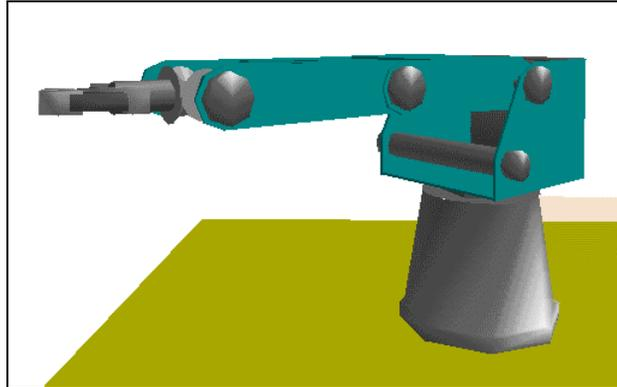

Figure 3-3: Position #2
- 6 Turn the base axis about 45° , as shown in Figure 3-3, and record this as position #2.